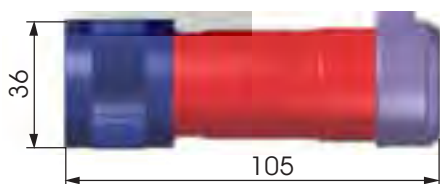

Fig. 12-1 Plug with cage clamp terminals (plastic/ metal)
12.2 Disassembling plugs with cage clamp terminals [Fig. 12.1]